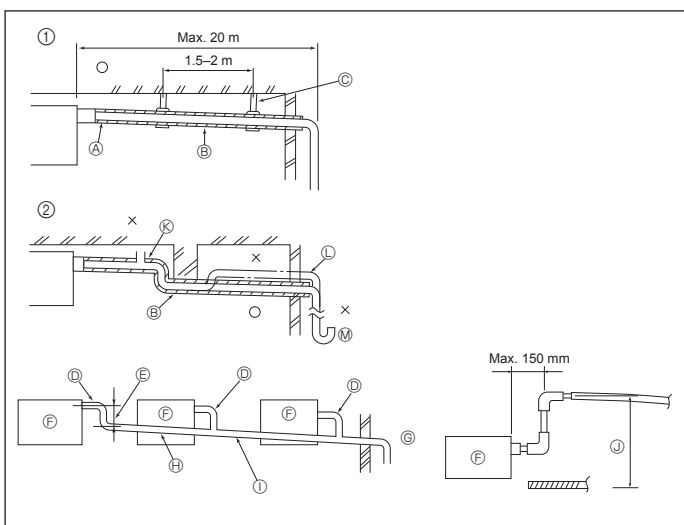

Fig. 6-1
6.1. Drainage piping work (Fig. 6-1)
- ① Correct piping
- ② Wrong piping